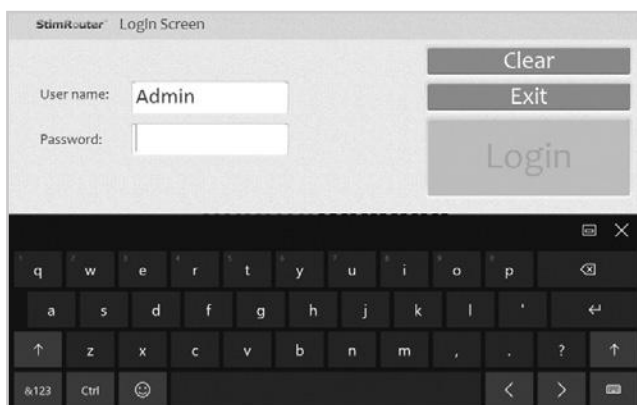

Figure 8-3: The StimRouter software login screen
2. If the login screen does not open automatically, then, press "Start" and then "StimRouter" to open the StimRouter software. Wait for the login screen to load. See Figure 8-3.